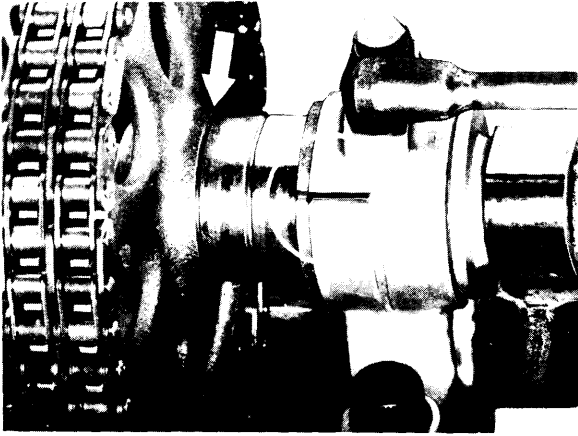

Fig. 7 Camshaft Aligning Marks
3) With No. 1 piston at TDC the marks on both camshafts must be in alignment (See Fig. 7). Install oil pipe. Reverse removal procedure to install remaining components.
Rotate crankshaft until No. 1 piston is at TDC. Both right and left camshafts timing marks must align with marks on front bearing support (See Fig. 7).